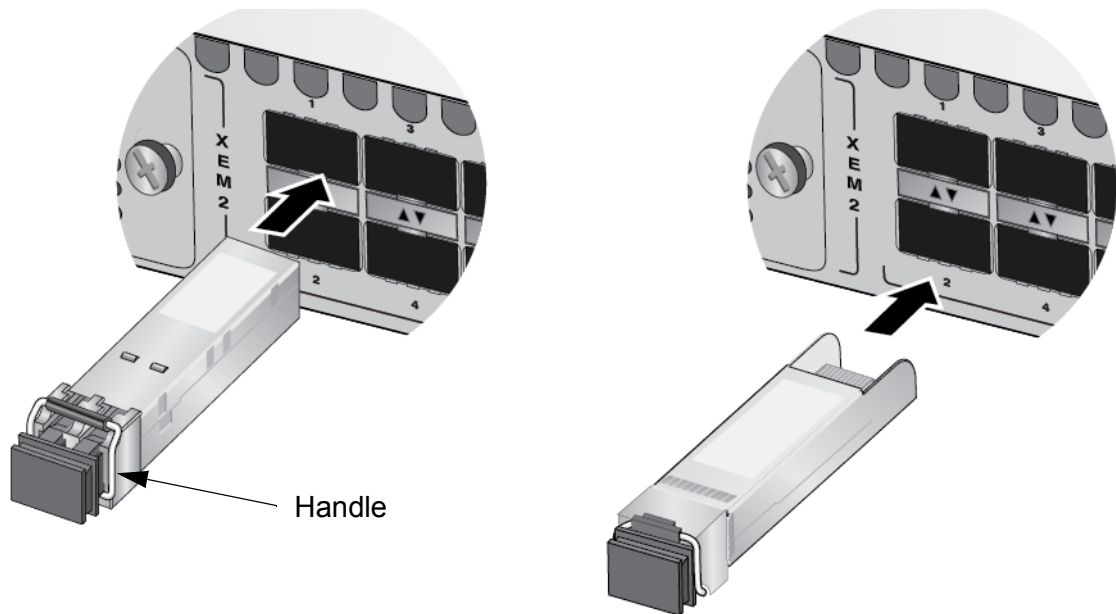

Figure 131. Installing an SFP or SFP+ Transceiver
- ❑ Base ports 1 to 24 and XEM2-8XSTm and XEM2-12XS Line Cards - To install a transceiver in an odd numbered port, position it with its handle on top. To install a transceiver in an even numbered port, position it with its handle on the bottom. Refer to Figure 131 on page 235.